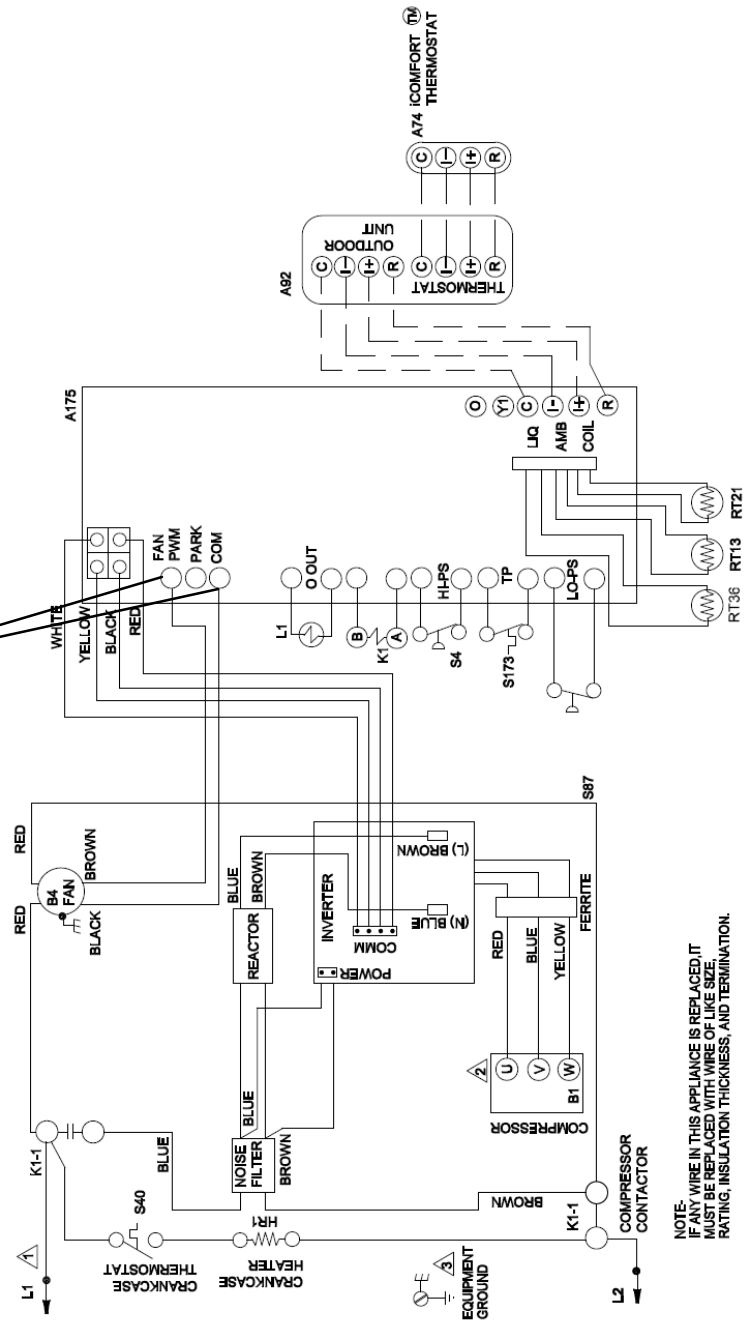

Figure 54. VAC Voltage Check
Check for 208/240 VAC power at inverter contactor (red wires) (see figure 54).
2. Voltage present – Perform DC volt checks (19 -23 VDC between FAN PWM and COM) (see figure 54).